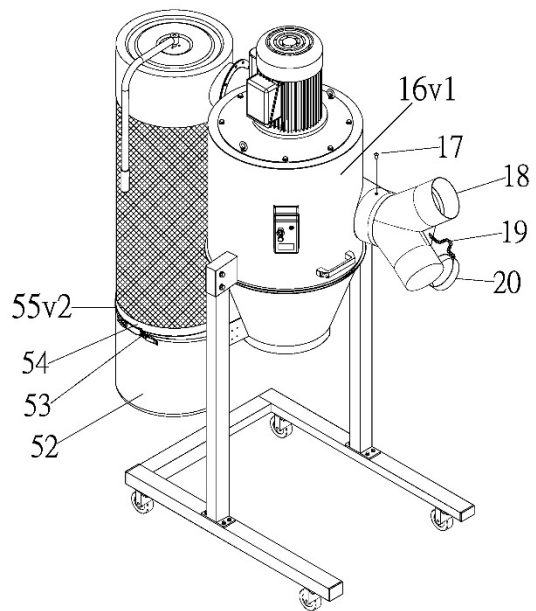

Fig. 7
- Assemble Inlet Adaptor (NO.18) on Main Housing (NO.16v1) and tighten with Phillips Head Screw $3/18" \times 3/8"$ (NO.17). See FIG. 7
- Paste Foam (NO. 54) as a circle on the bottom of canister filter (NO. 55v2), and tighten the PE Bag (NO. 52) with Bag Clamp (NO. 53). See FIG. 7